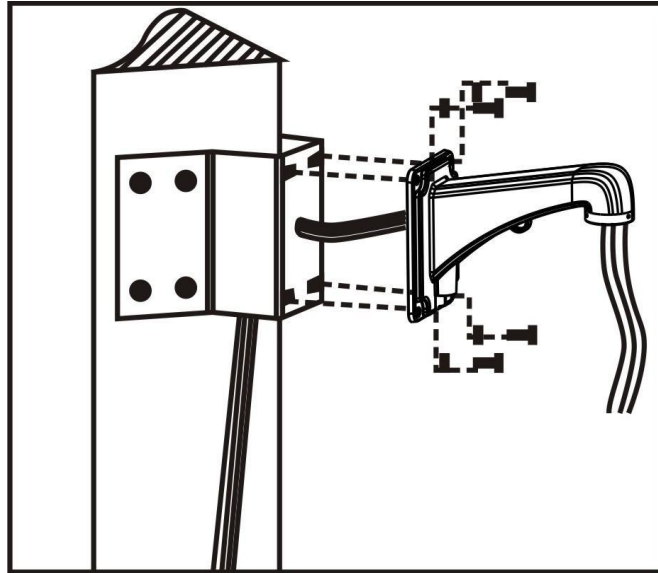

Fig 14
c. As shown in fig 14, fix the wall hanging bracket with all cables power through it on the corner mounted attachment.